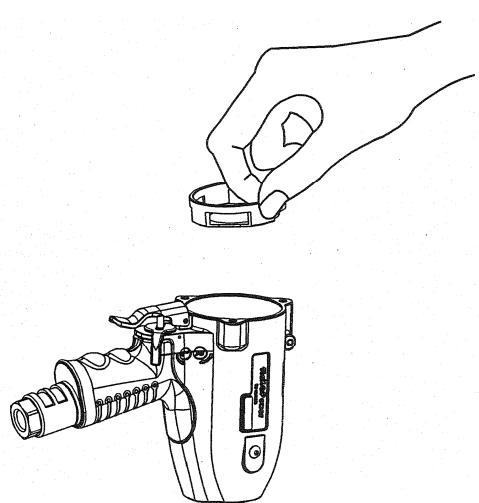

Fig. 188
**(6) Motor housing, Pulse Unit, and Pulse Unit Housing Assembly**
- (a) Put the lock washer into the housing. (Fig. 188)